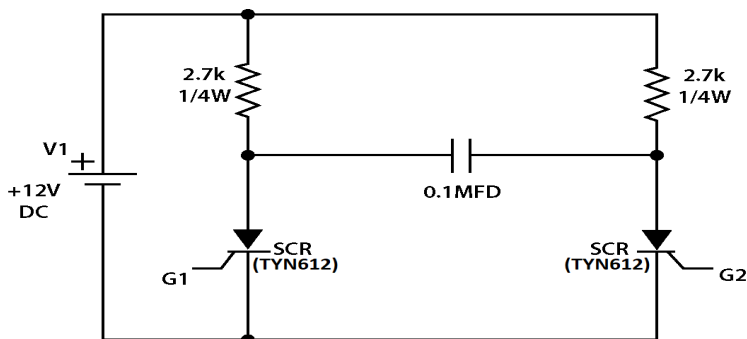

Figure 10
1. Connect the circuit as shown in Fig. 10.